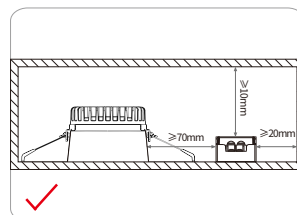

Figure 2
- 2.The driver keeps a certain distance from surrounding objects, as shown in Figure 2.